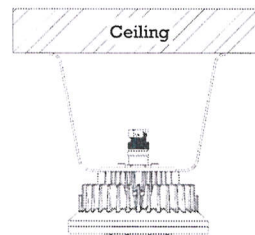

Figure 3
- ☞ Position the bracket holders and fix it by means of the provided M8 screws, 61 kgf-cm. (Figure 3)